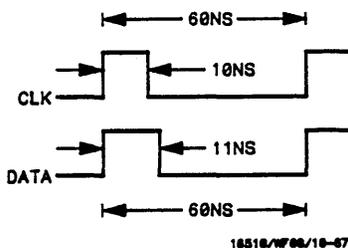

Figure 3-16. Waveform for Clock, Qualifier, and Data Inputs Test 4
2. Adjust pulse generator for the output in figure 3-16.